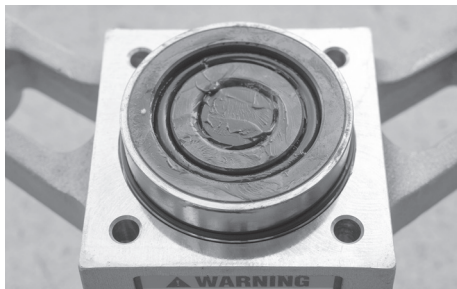

Fig. 12 - View of the Lower Driver Body Assembly when removed from the post driver.
Remove the four (4) bolts (p/n 300702-4) in the bottom of the lower driver body (p/n 301034). Use caution as the handle tubes (p/n 300232) have anti-vibration springs (p/n 610010-4) installed and they are under tension. When the lower driver body is removed, it should appear as shown in **Fig. 12**. The anvil o-ring retainer (p/n 301110) will sometimes be removed with the lower driver body or remain in place.